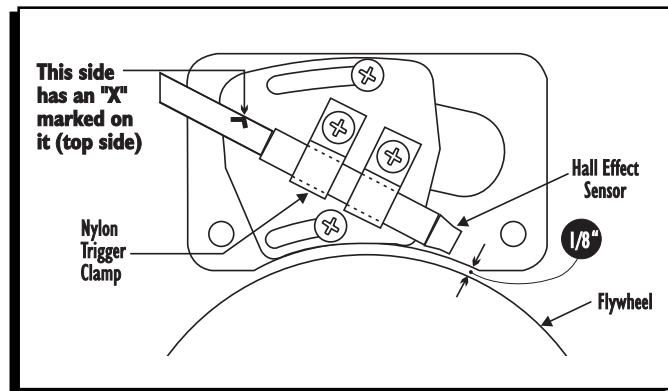

Figure 6 Locating the Pickup on the New Style Trigger Bracket.
2. Locate the trigger bracket that is included with the Kicker ignition system (Figure 6). The MSD Kicker Ignition can be set up to be used with the stock flywheel or the MSD Billet Aluminum Flywheel. If the stock flywheel is used the upper trigger pick up hole will be used. (Fig. 6) The stock flywheel is larger in diameter so these holes will position the pickup further away. If the MSD Billet Flywheel is used, then the lower holes will be used which will position the pick up closer to the flywheel.
3. Rotate the trigger wire in the nylon straps until the "X" mark on the wire is facing up (Figure 6). This will calibrate the trigger for the new style engine flywheel.
4. Mount the pickup using the stock bolts and plastic spacers along with the aluminum spacers supplied with the kit. Position the pickup in the middle of the slots leaving the bolts loose (Figure 6). Verify that the trigger wire is located within $3/8"$ on the stock flywheel or $1/8"$ on the MSD aluminum flywheel.